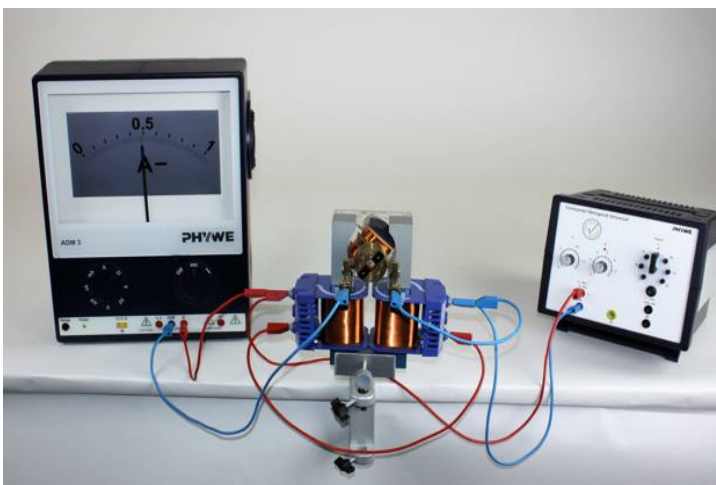
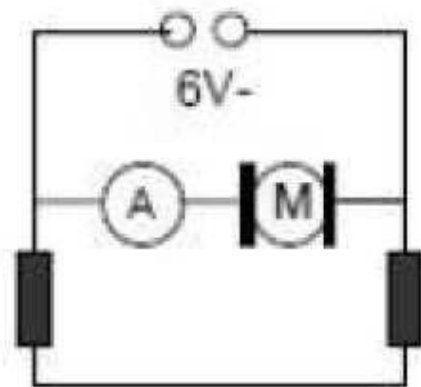

Fig. 3
Fig. 4
- Complete the setup according to Fig. 3 and Fig. 4.
If an electromagnet is used to operate an electromotor, it must create a large enough magnetic field near by the armature. This is why a U-shaped iron core with two field coils is used, where the armature runs between its poles. Armature coils and field coils are connected in parallel for a shunt-wound motor (Fig. 4).